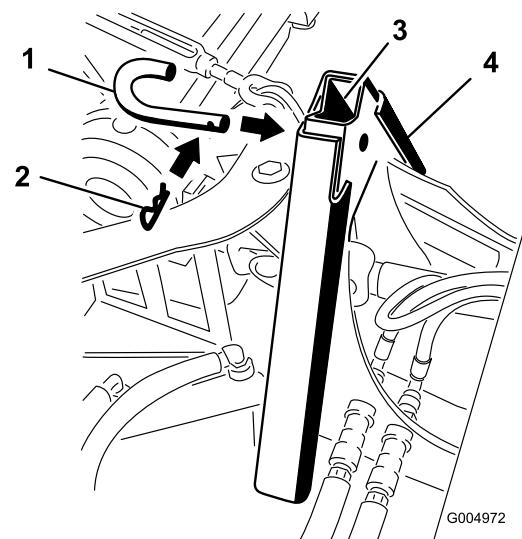

Figure 71
- Secure the adapters together with the attachment pin and hairpin cotter as shown in Figure 71.